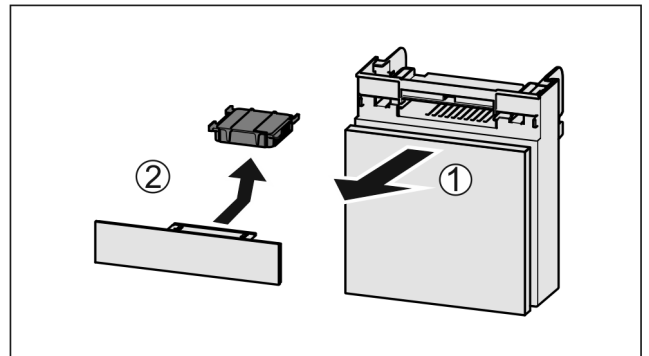

Fig. 87
- ▶ Pull out the compartment Fig. 87 (1).
- ▶ Remove the carbon filter Fig. 87 (2).